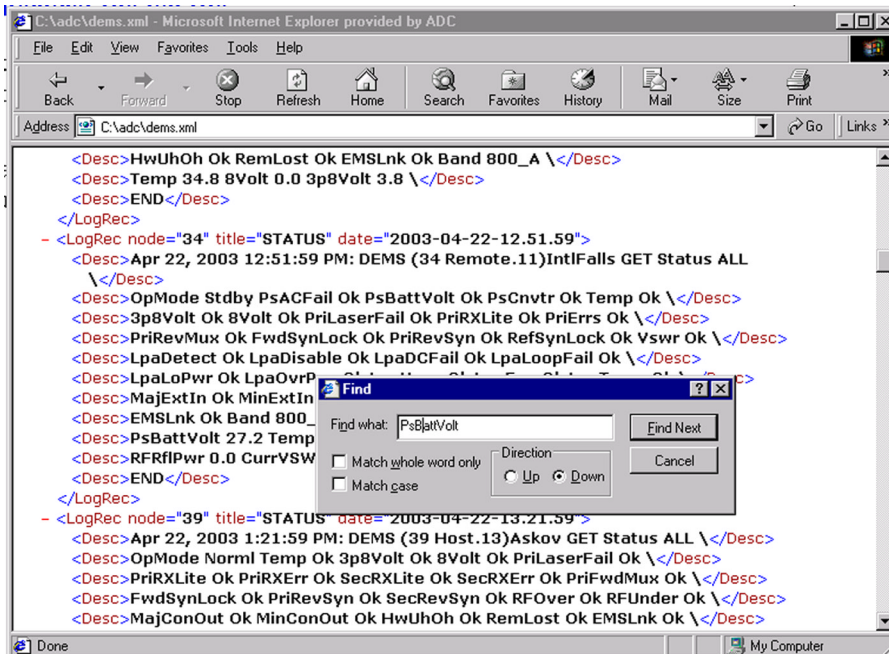

Figure 47. Searching the Log File
2. Use the search function of the browser (**Edit**⇒**Find (on This Page)** or comparable function) to find particular types of records or a particular item such as PSBattVolt in Figure 47.